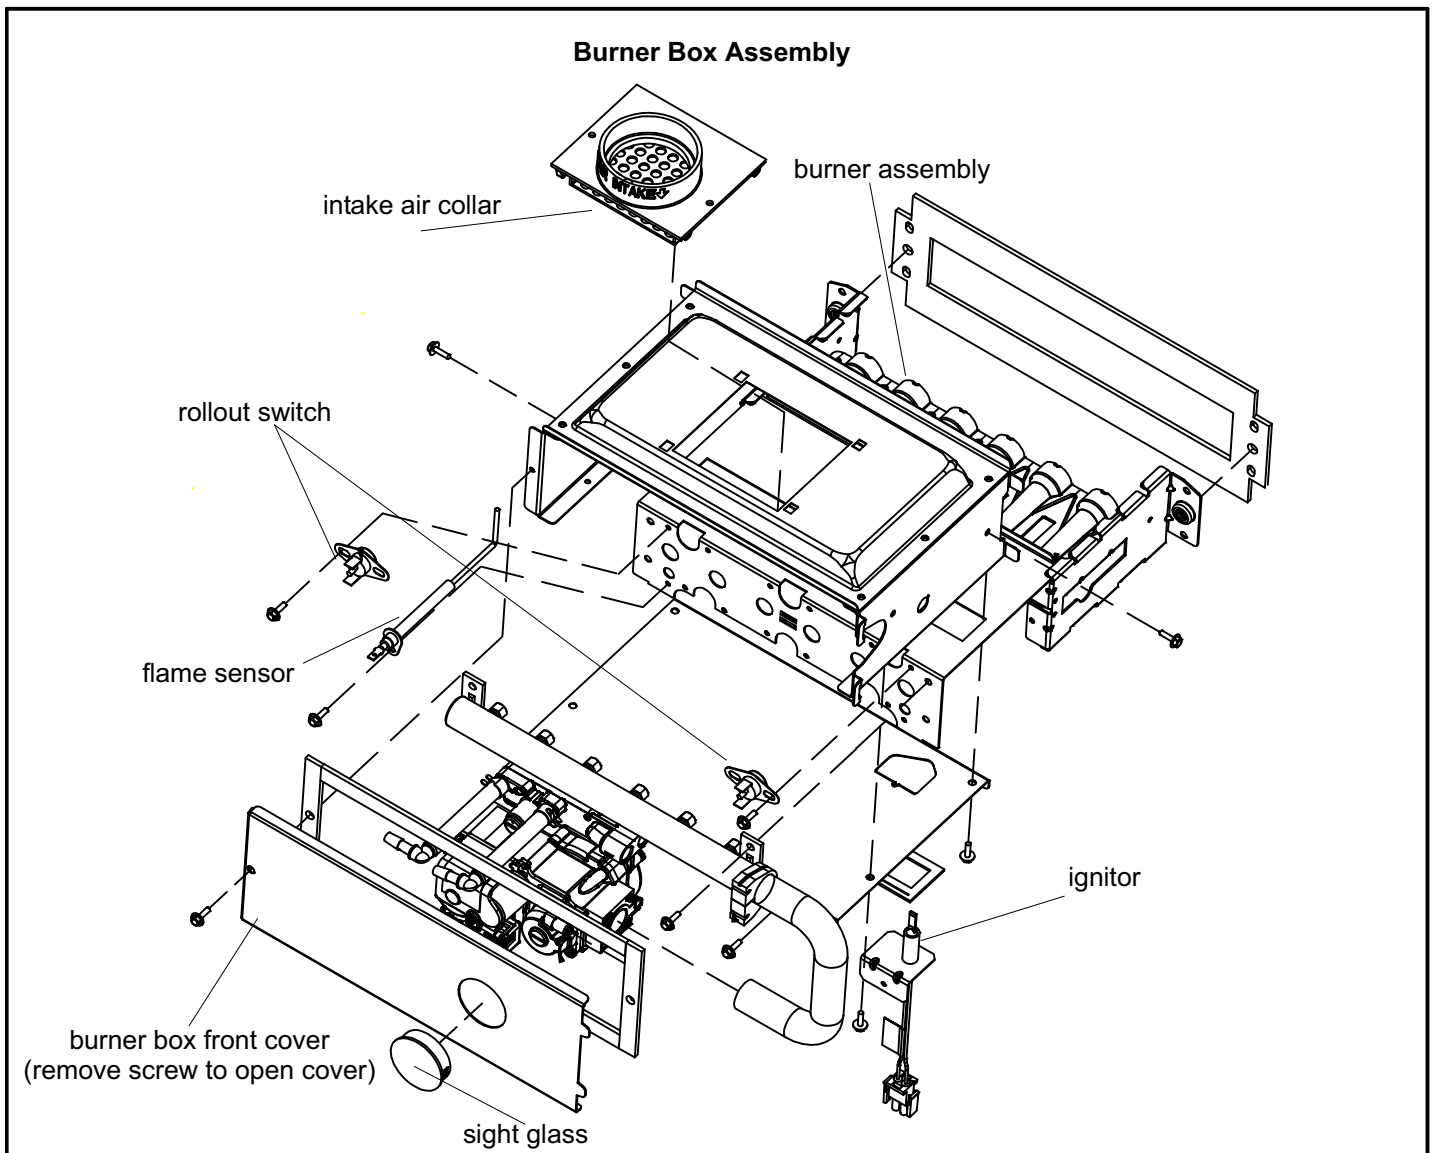

FIGURE 11
1. Ignitor (Figure 11)
2. Flame Sensor (Figure 11)
A flame sensor (figure 11) is located on the left side of the burner support. The sensor is mounted on the flame rollout plate and the tip protrudes into the flame envelope of the left-most burner. The sensor can be removed for service without removing any part of the burners. During operation, flame is sensed by current passed through the flame and sensing electrode. The SureLight control allows the gas valve to remain open as long as flame signal is sensed. To check flame sense signal use the push-button found on the integrated control and go to Field Test Mode. The menu will display the flame signal. Table 17 shows the flame signal for the SLP98UHV unit.
3. Flame Rollout Switches (Figure 11)
4. Burners (Figure 11)